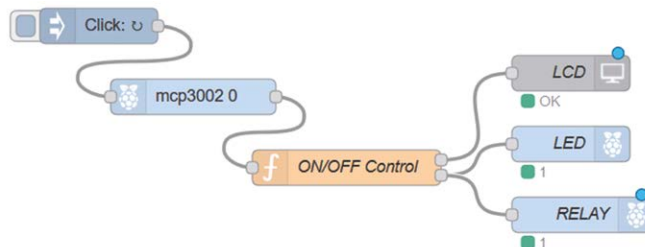

Figure 7.13 Flow program of the project
Node-RED flow program: Figure 7.13 shows the flow program which consists of 6 nodes: an **inject** node, an **A/D converter** node to read the room temperature, a **function** node as the ON/OFF controller, and a **LCD20x4 I2C** node to display the setpoint and the actual temperatures, a **rpi gpio out** node connected to the LED, and another **rpi gpio out** node connected to the relay.
- Connect all the nodes as in Figure 7.13 and click **Deploy**. The program should now control the room temperature as required.